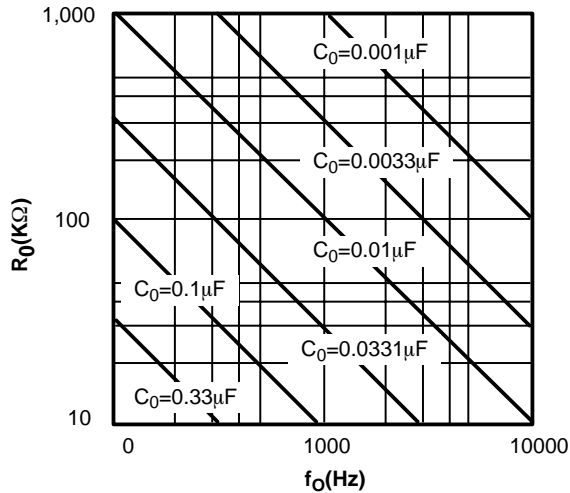

Figure 7. VCO Frequency vs. Timing Capacitor
- c) Calculate value of  $C_0$  from design equation (1) or from Figure 7:
- Calculate value of  $C_0$  from design equation (1) or from *Figure 7*  $f_S = f_0$ :